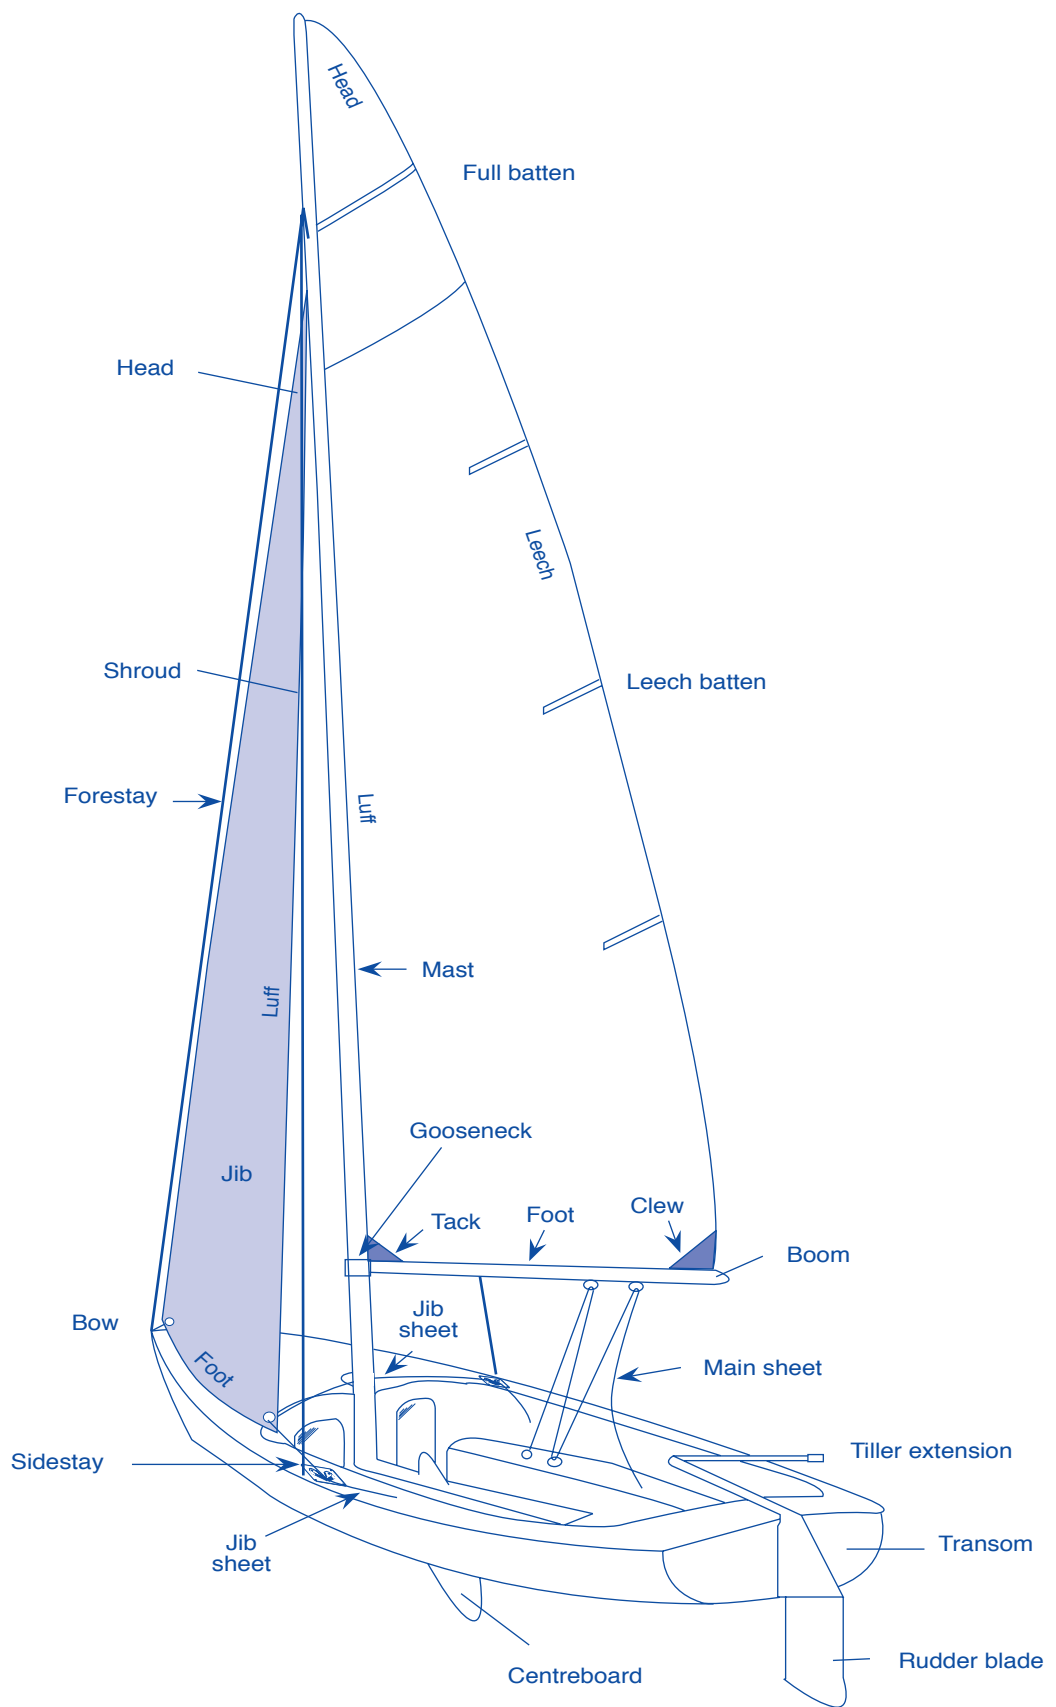

Figure 63.1 The Corsair
The diagram in Figure 63.1 is of a Corsair which is the type of sailing craft you are going to do most of your training in. The boat is an Australian design, by Alan Payne. It is basically a family-orientated racing/cruising dayboat that is sloop rigged with spinnaker. The hull is made of fibreglass and it tends to be a stable, forgiving type of boat.
1. Redraw Figure 63.1 in your notebook.